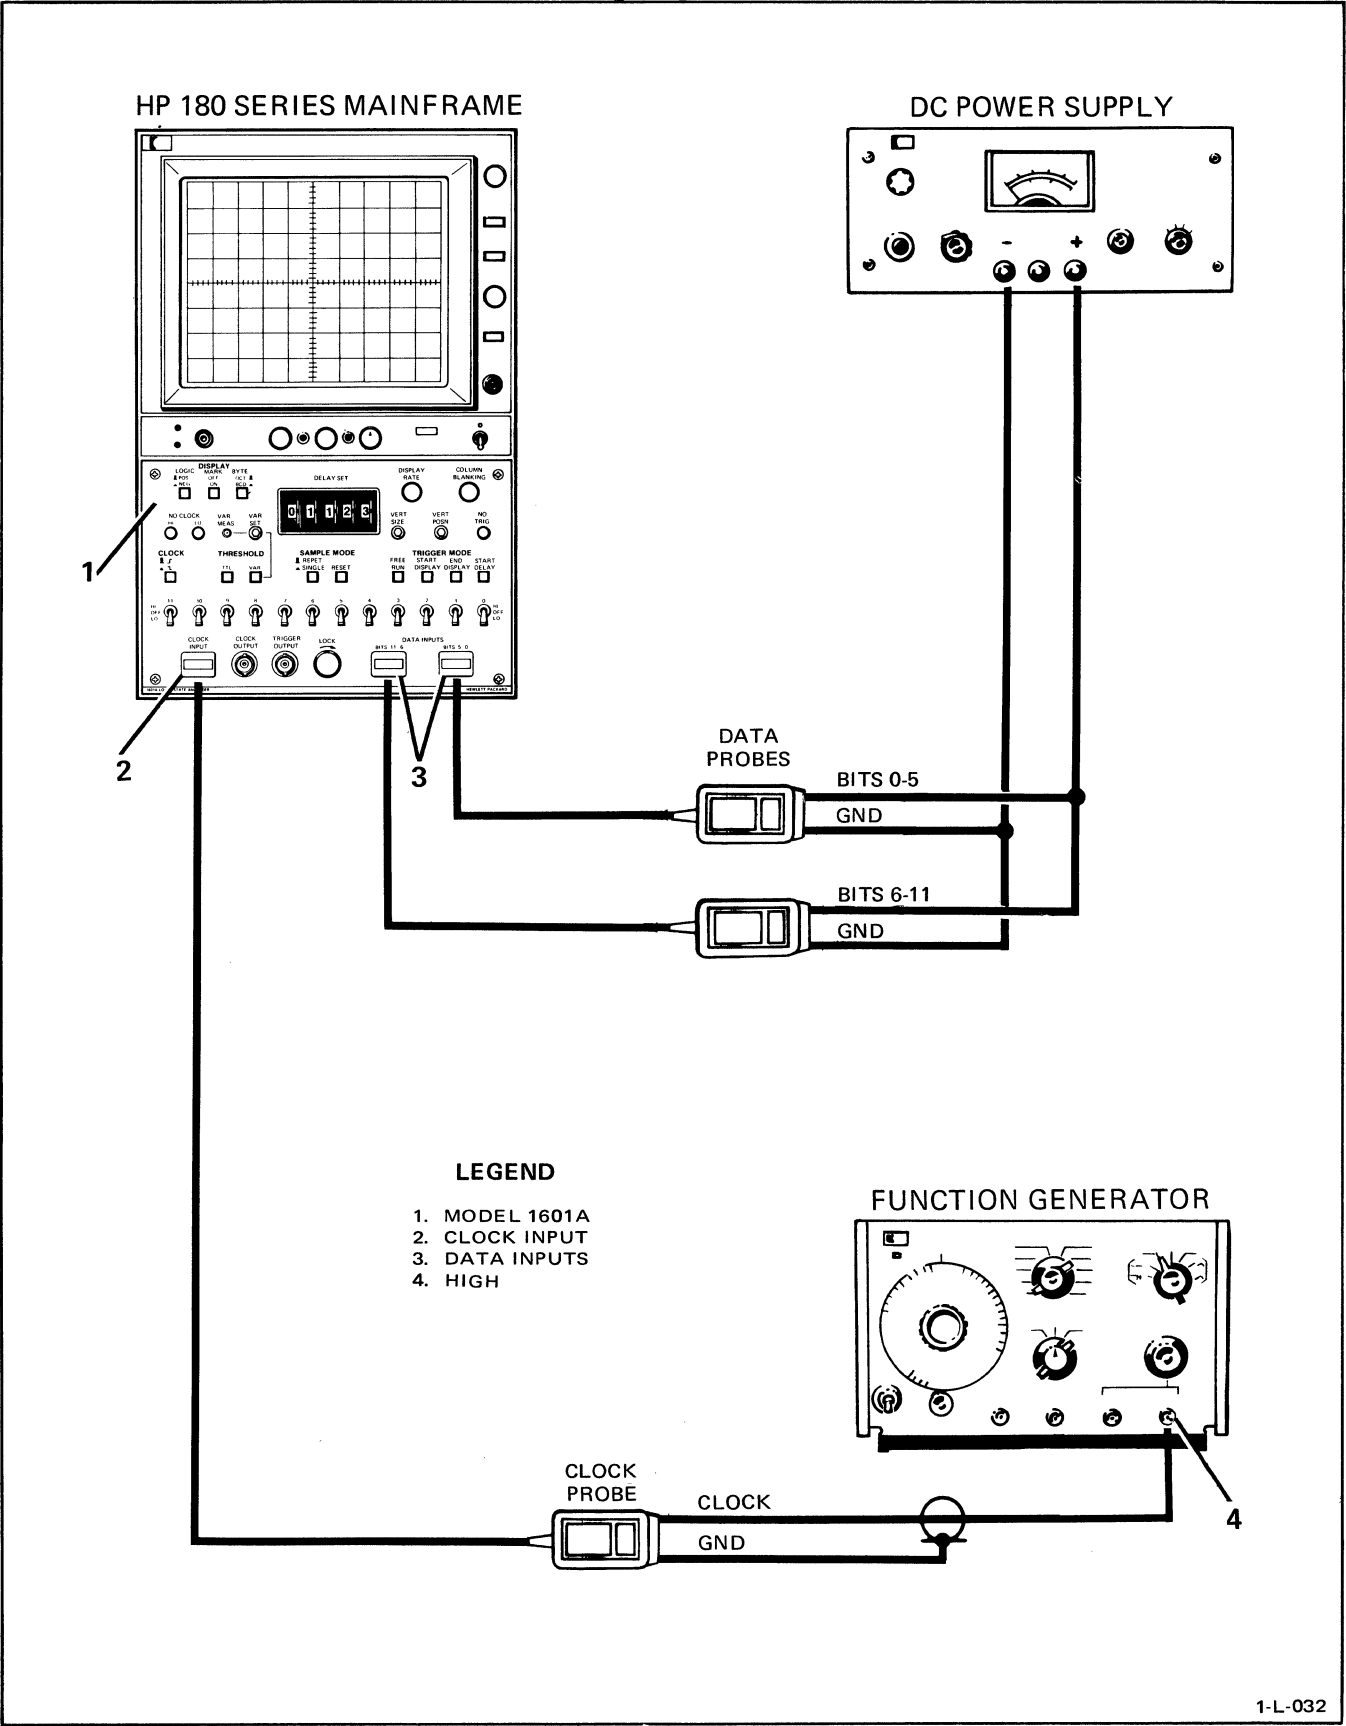

Figure5-6. Bit Recognition/No Clock and No Trig Indicator Test Setup
a. Refer to figure 5-6 for recommended test equipment setup.